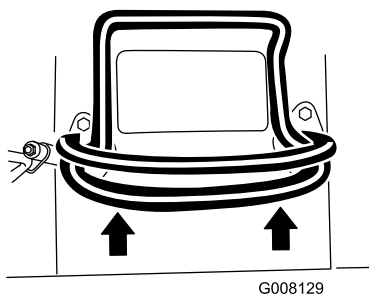
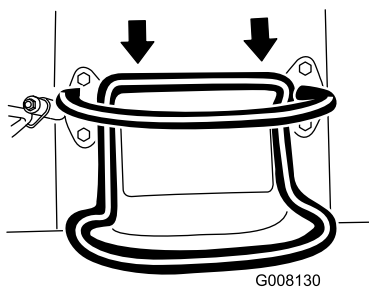

Figure 6
Figure 7
- To move forward, move the traction control forward (Figure 6).
- To move rearward, move the traction control rearward (Figure 7). **When reversing, look behind for obstructions and keep your hands on the reference bar (Figure 6).**